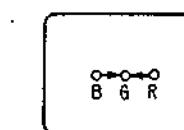

Fig. 4-6.
1. Adjust the horizontal static convergence control VR801 so that red and blue dots converge with green dots at the centre of the screen. See Fig. 4-6.